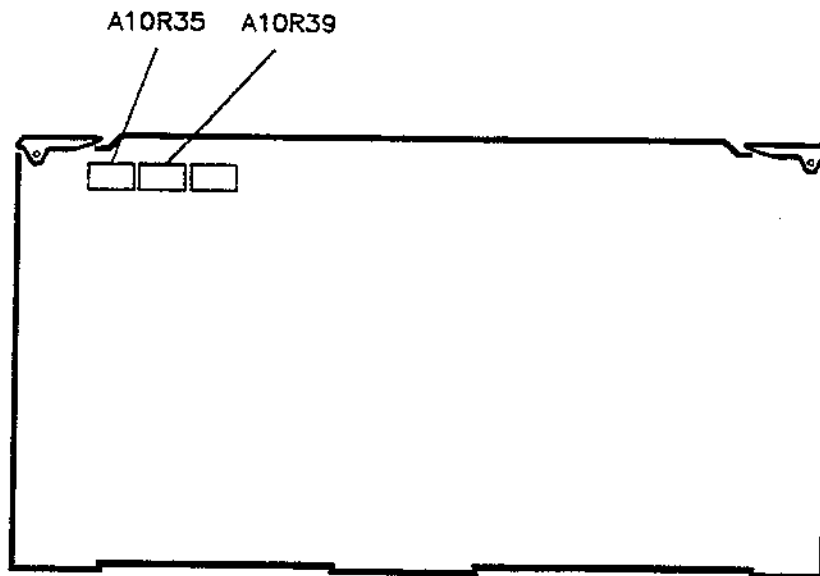

Figure 3-29. A10R35 and A10R39 Locations
15. Adjust A10R35, EXP AM CAL, for a  $-10$  dB power meter reading. See Figure 3-29 for the location of A10R35.
See Figure 3-29 for the location of A10R39.